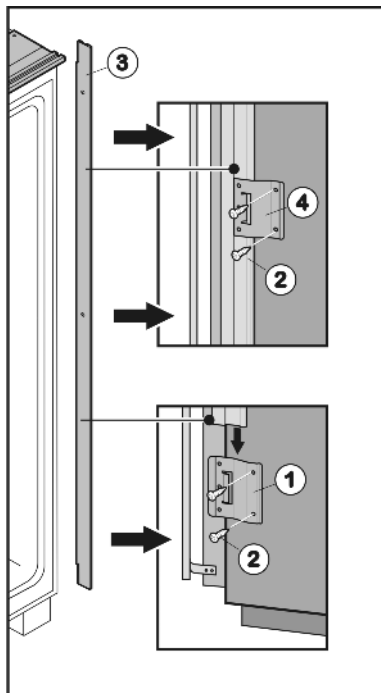
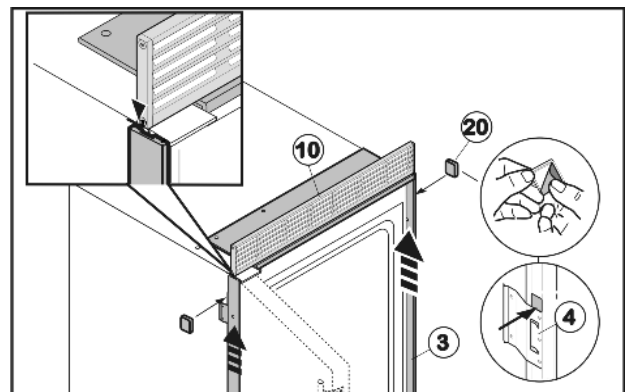
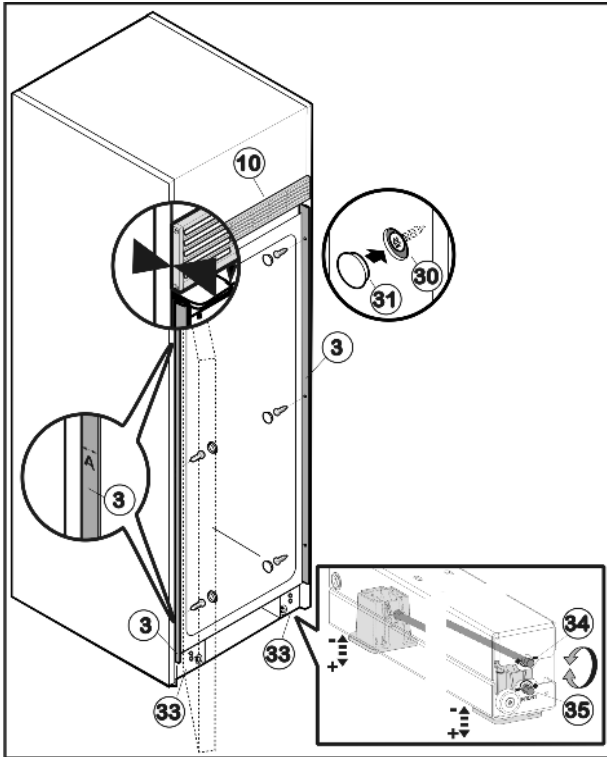

Fig. 30
Fig. 33
Fig. 34
- Fit retaining plate Fig. 30 (1) to the lower part of the handle side by inserting two screws Fig. 30 (2) into the pre-cut holes.
- Slide installation strip Fig. 30 (3) into the retaining plate Fig. 30 (1) from above.
- Push second retaining plate Fig. 30 (4) onto the installation strip Fig. 30 (3) from above and screw to the center of the side wall.
- Push third retaining plate Fig. 30 (4) onto the installation strip Fig. 30 (3) from above and screw to the top part of the side wall.
- Remove adhesive tape from the side installation strip Fig. 33 (3).
- Push installation strip Fig. 33 (3) upwards until it is touching the ventilation grille Fig. 33 (10).
- Glue the adhesive plates Fig. 33 (20) above the retaining plate Fig. 30 (1) and the retaining plates Fig. 33 (4) respectively to the installation strip Fig. 33 (3) such that it cannot slide downwards.
- ▶ Push the appliance into the recess until the rear edge of the ventilation grille Fig. 34 (10) is flush with the front edge of the side wall of the cabinet.
- ▶ Align appliance inside the recess above the roller bases Fig. 34 (33) using a spirit level: Use upper adjustment setting (1/4") Fig. 34 (34) for the rear adjustable foot and lower adjustment setting (1/4") Fig. 34 (35) for the front adjustable foot respectively. Turn clockwise to raise and counterclockwise to lower. Maximum adjustable height: 5/8 in (16 mm).
- ▶ At the top and bottom of the recess check the gap A between the front edge of the installation strip Fig. 34 (3) and the front edge of the side wall of the unit. It must be 1/2 " (13 mm). Realign the appliance in the recess if required.
- ▶ Secure appliance inside the recess using three screws Fig. 34 (30) on the handle side and the hinge side respectively. Do not scratch the side installation strip Fig. 33 (3) when doing so.
- ▶ Place cover caps Fig. 34 (31) over the screws.